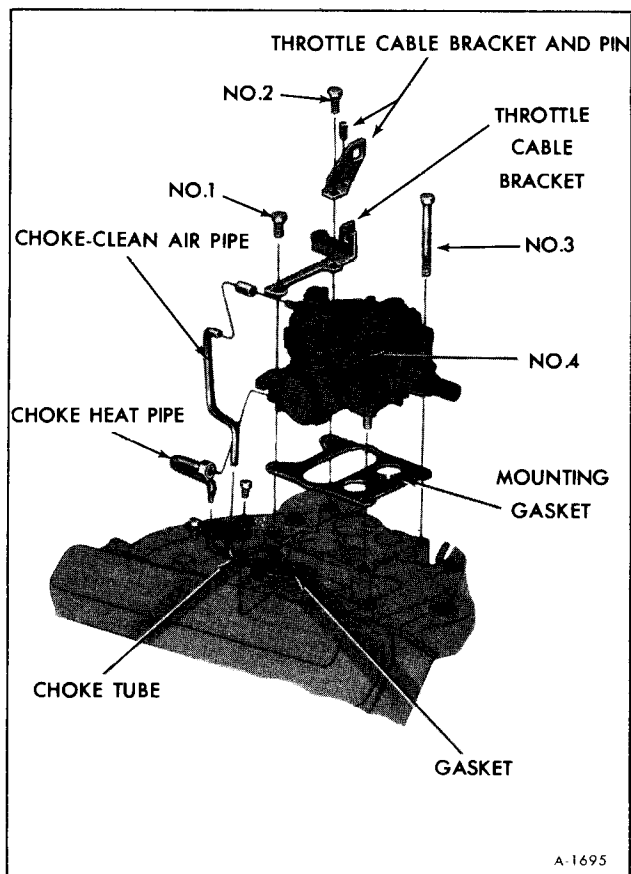

Figure 10—Carburetor Installation
2. Install carburetor. Torque attaching bolts to 15 ft. lbs. in sequence as shown in Figure 10.